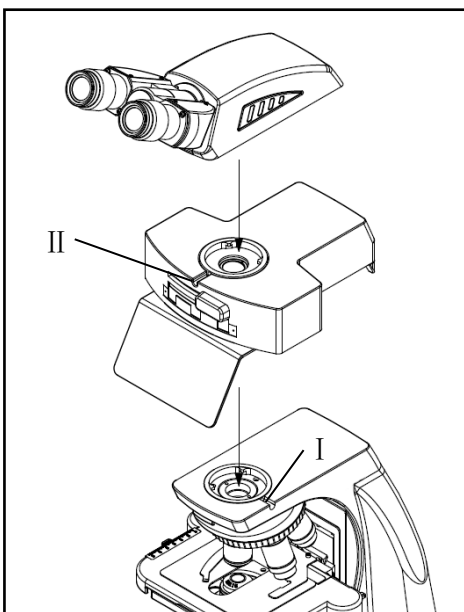

Fig.32
- ☉ Use mask ② to prevent ultraviolet light from damaging the retina.
- ☉ The power cord ③ behind the fluorescent set is connected to the USB interface ④ on the back of microscope, which is powered by the microscope.
6.2 Installing (Fig.32)
1. Mount the fluorescent set according to the assembly path in Fig.32 into the round dovetail of the microscope and tighten the screw I ;